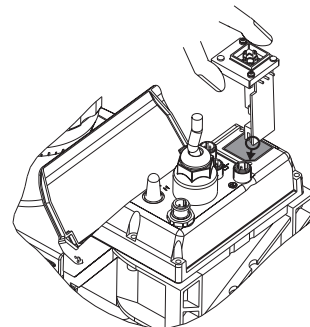

Fig. 21
- ▶ Hold the relay component with your right hand gripping the left and right hand edges of the relay cover, and tilt the front end slightly to the left (see fig. 21)